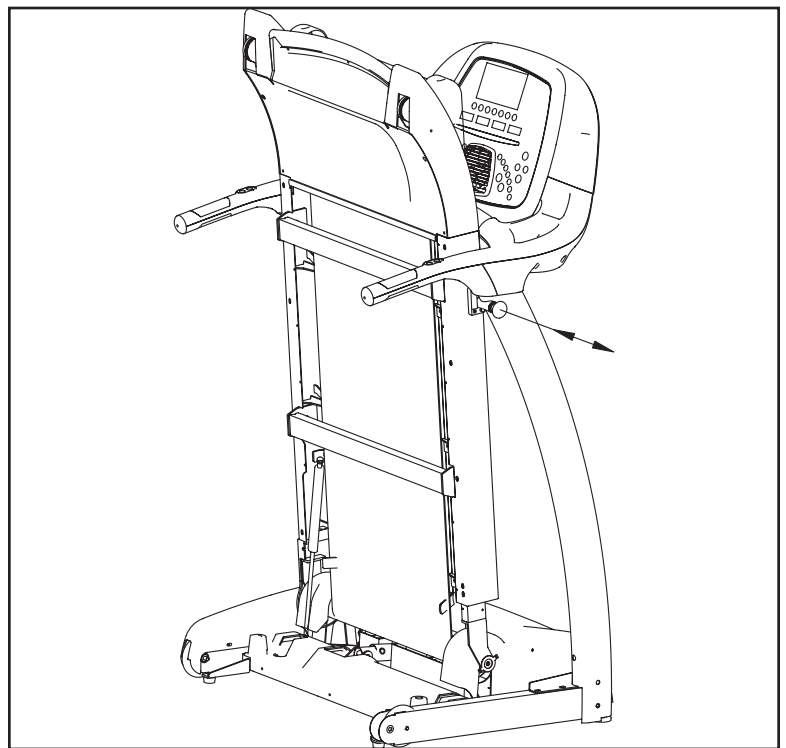

Figure 6: Storage Position Locking Method
8. Fold the treadmill into the storage position and lock into place as shown in Figure 6.